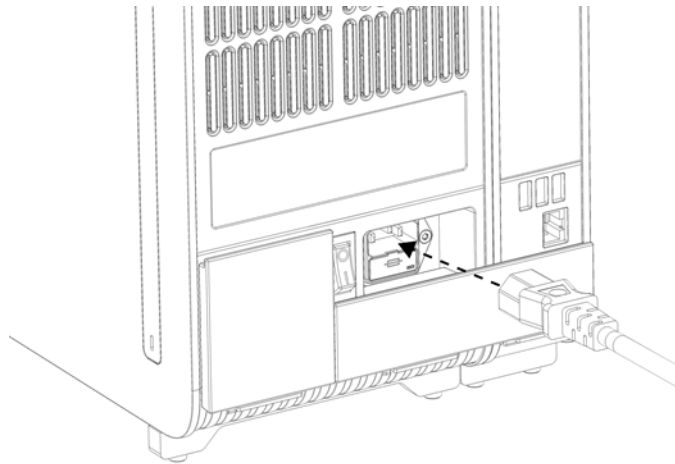

Figure 20. Connecting the power cord.
8. Connect the power cord that was delivered with QIAstat-Dx Analyzer 2.0 to the back of the original Analytical Module (Figure 20).